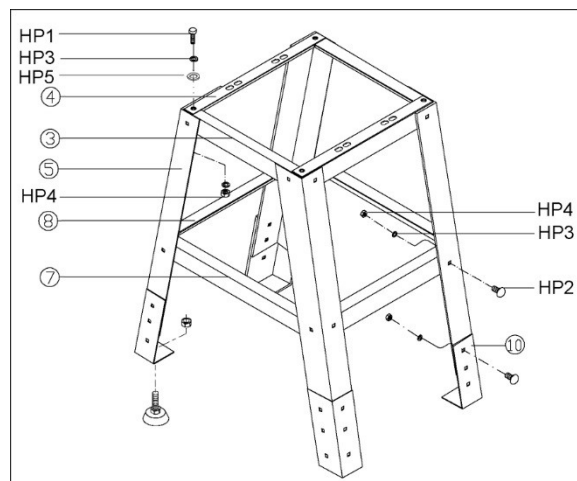

Figure 1: stand assembly
Refer to Figures 1 and 2, and exploded view on reverse side.
2. The leg extensions (#10, Figure 1) can be adjusted for height.